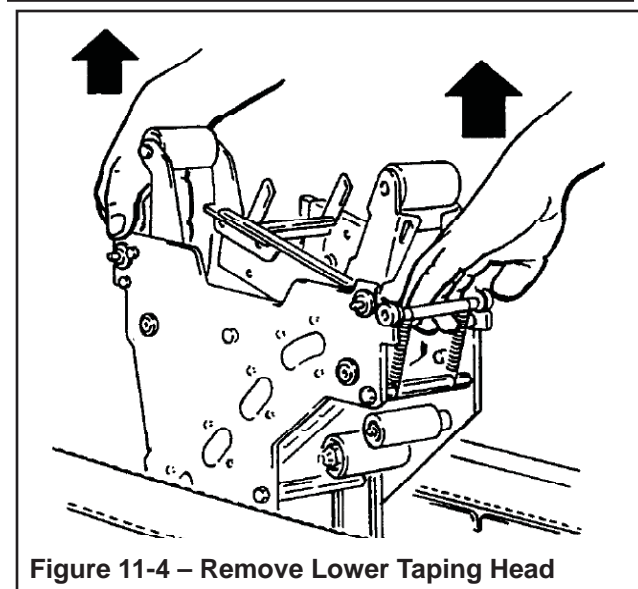

Figure 11-4 – Remove Lower Taping Head
4. Lift the lower taping head, shown in **Figure 11-4**, straight up to remove it from the case sealer bed.